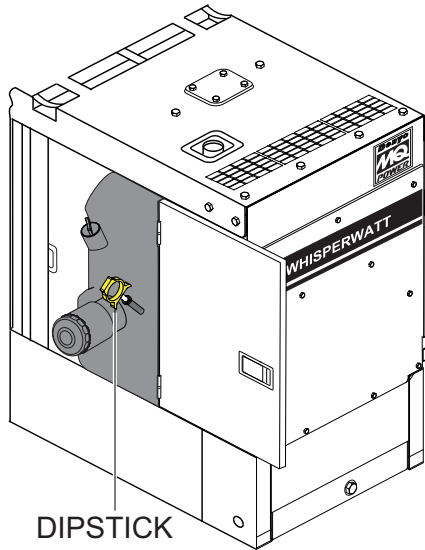

Figure 15. Engine Oil Dipstick
2. Remove the dipstick from its holder (Figure 15) and wipe it clean.